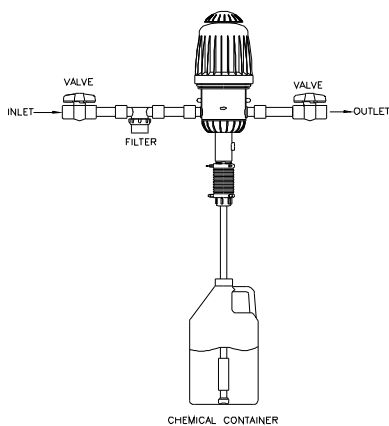
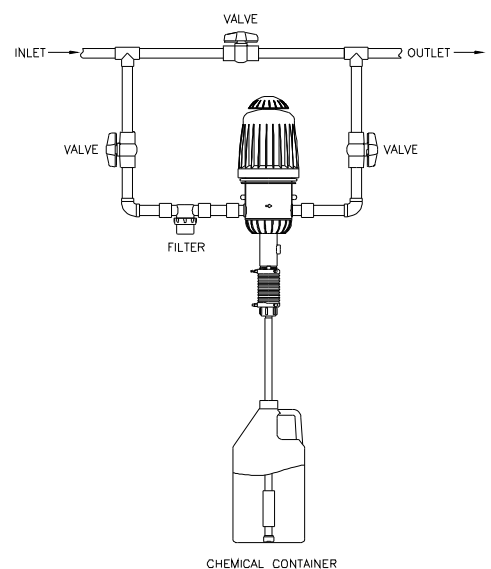

Figure 1
Figure 3
- b) The DEMA MixRite should be positioned no more than 10 ft above the liquid chemical container (see Fig. 1)
4. INSTALLATION: Installing the DEMA MixRite on a Direct Line (see Fig.1 & 2) or a Bypass Line (see Fig. 3).
3. Attach any shutoff valves you may require to obtain an inline or bypass (off line) configuration (see Figures 1, 2, & 3 below).